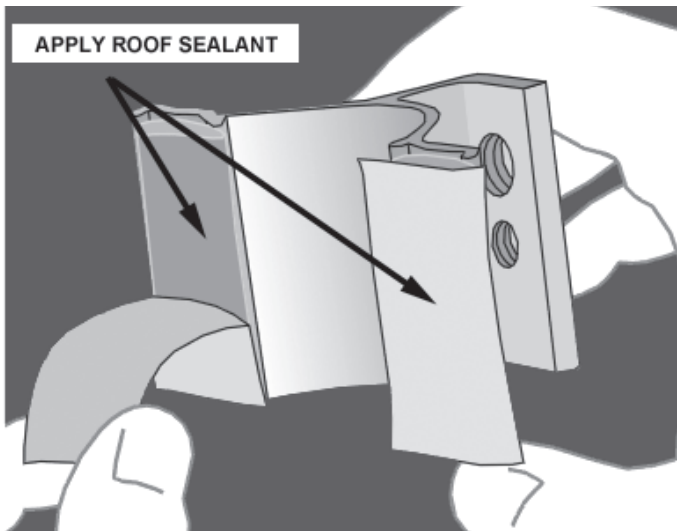

Figure 3.
3. Clean the area where the bracket is to be installed. Remove the peel and release paper from both bases, apply a generous amount of sealant around and under the bracket base and screw holes to form a water tight seal then align and install the bracket per note 1. See Figures 3 & 4.